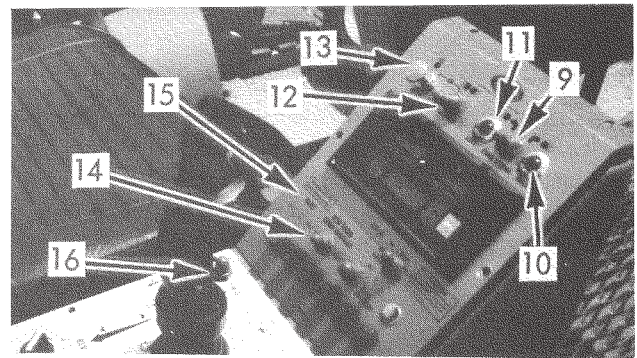

Figure 9. Control Panel
9, 10, 11. Turn Signal Selector and Indicators. (Figure 9)
12. Hazard Flasher Switch (Figure 9)
13. Headlight Switch (Figure 9)
14. Hydraulic Tank Temperature Display Selector. (Figure 9)
16. Hitch Release Pushbutton. (Figure 9)